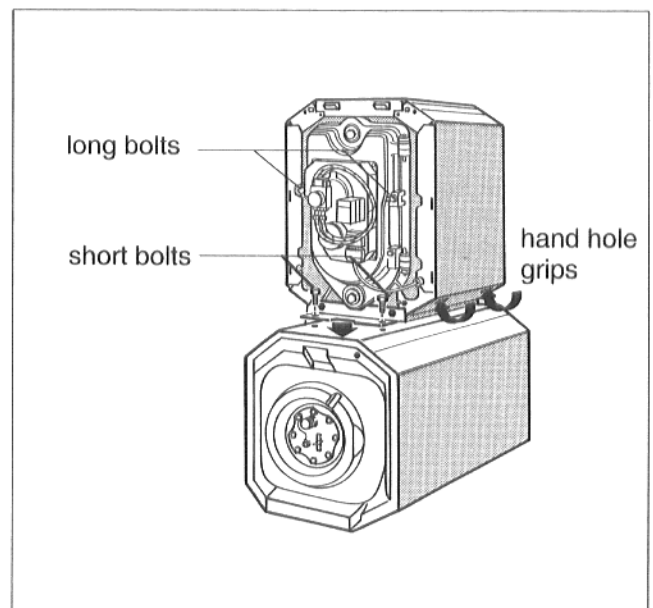

Fig. 6
- Pick up the boiler using the hand grips on the bottom sides of the jacket, and place it on top of the LT domestic water heater (Fig. 6).
- Tighten all four bolts. (Fig. 6).